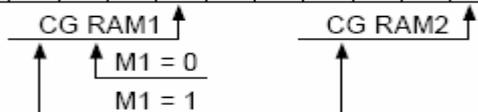

Figure 46. On-chip character codes
- The character code for the defined pattern is 80H (the first character code in the CG RAM area). As the character code table in Figure 46 shows, codes 80H to 9FH and E0H to FFH are allocated to the CG RAM and can be used as desired. 80H is thus the first code for CG RAM. As characters cannot be used if only using graphics mode, there is no need to set the CG RAM data.